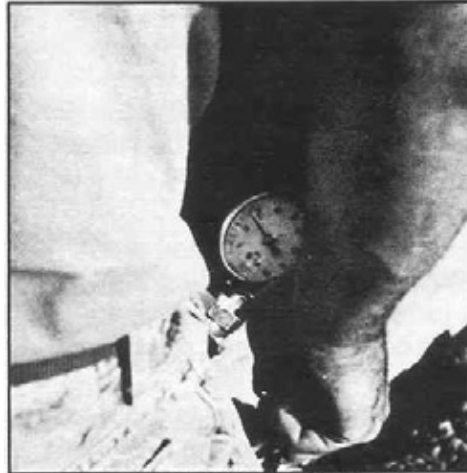

Figure 12: MONITOR STATUS
5. Continue monitoring the winch line status and the pressure gauge on the control valve assembly, Figure 12. Average pressure reading during normal missile blowing operations should be approximately 70 – 90 psi.